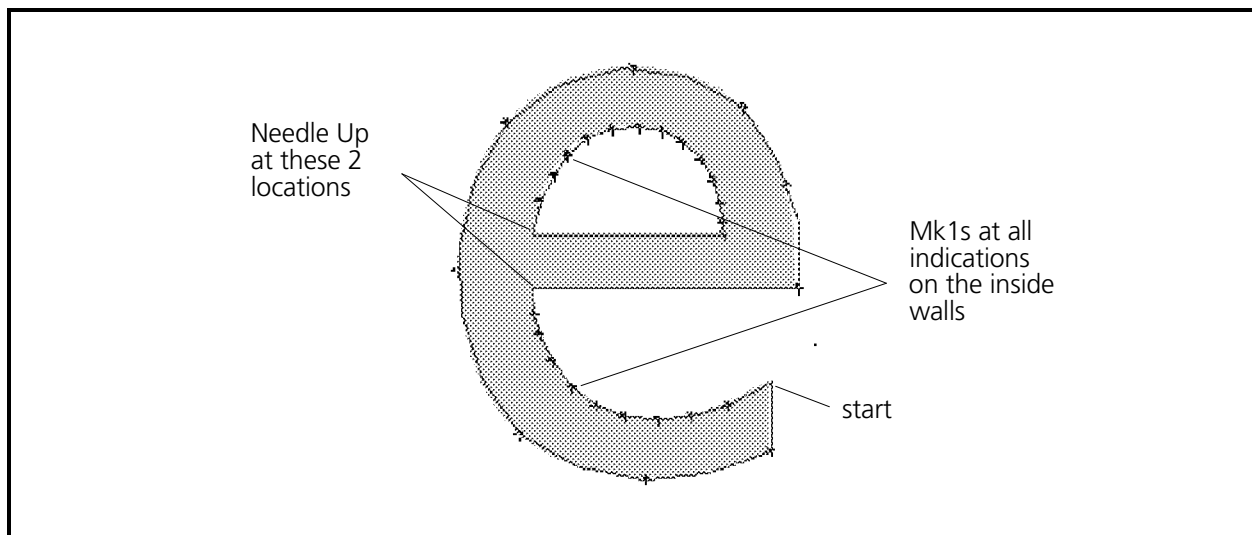

Figure 3-17
1. Enter Mk1s along the inside edge of the tail of the letter **e**. Generate these Mk1s at intervals that will allow the straight lines between them to stay closely aligned with the boundary of the wall (see Figure 3-17).
2. When you get to the crossbar put a Mk1 in the corner (see Figure 3-17).